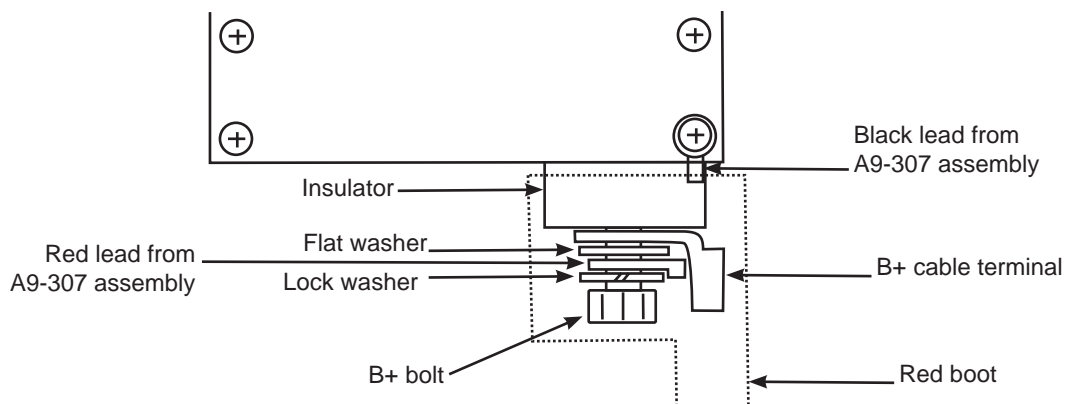

Figure 2 – Top View of A9-307 Alternator Voltage Filter Assembly Stacking Order
3. See Figure 2. Connect leads of A9-307 assembly: